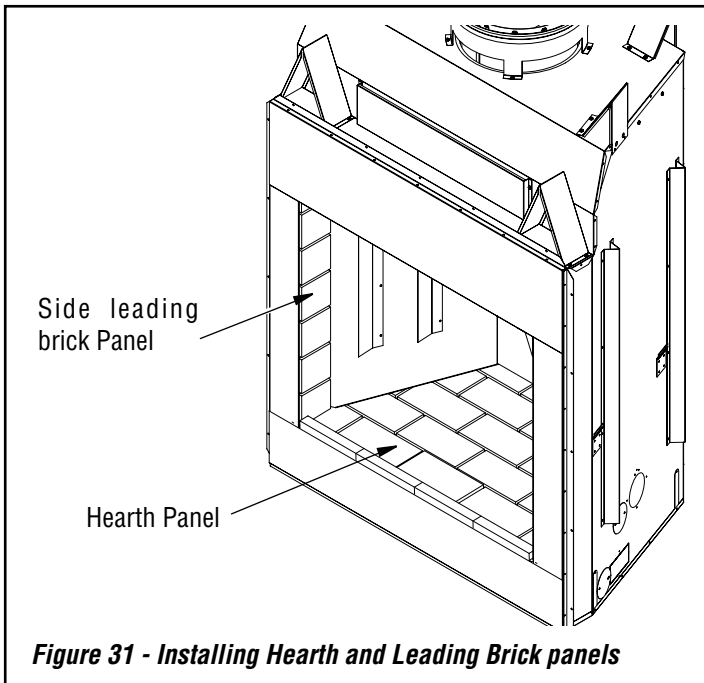

Figure 31 - Installing Hearth and Leading Brick panels
1. Install bottom brick panel. Using at least two people, hold bottom brick panel by its side edges. Place the back edge of bottom panel into the firebox first and carefully lower the front edge of panel. Make sure bottom panel is centered in the firebox and flush with the front of the fireplace. Be careful not to pinch your fingers between the panel and firebox (**Figure 31**).
2. Install the left and right side leading bricks (**Figure 31**).